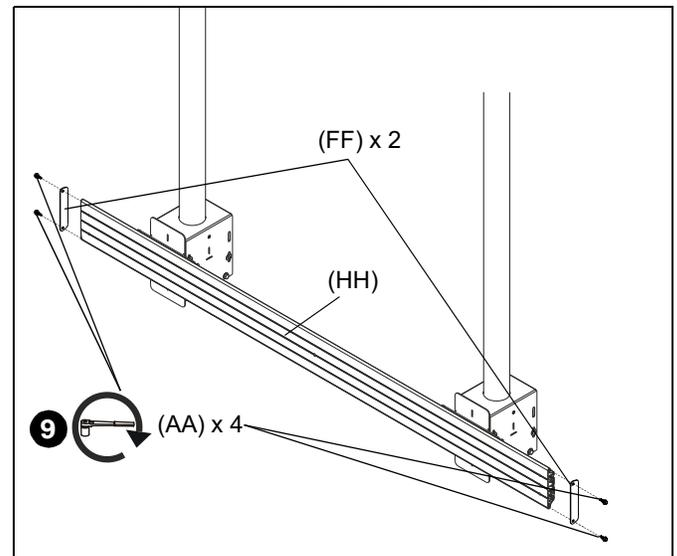

Figure 8
- Use four 1/4 x 3/4" hex flange bolts (AA) to secure two side covers (FF) to ends of rail (HH). (See Figure 8)